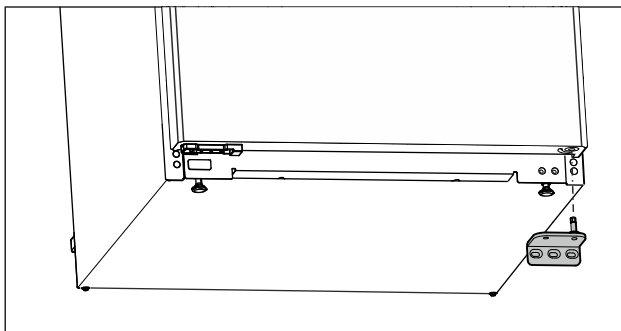

Fig. 7
- Remove the swap bearing block downwards. (see Fig. 7)